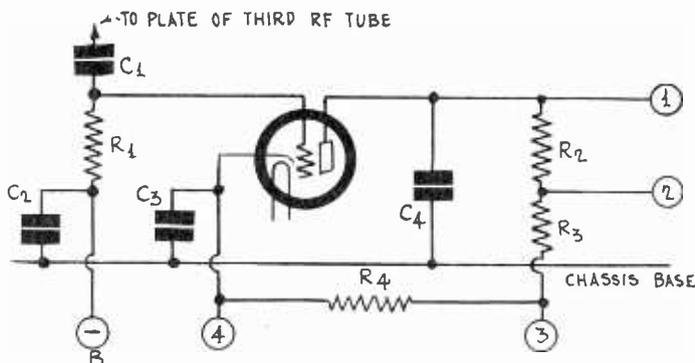

FIG. 2
In Fig. 2 is a different version of an automatic sensitivity control, and is a simplified diagram of that used in the new Stromberg-Carlson models 12 and 14. In this the control tube is a 227, the grid of which is connected through a 0.0001 mfd. condenser to the plate of the third radio frequency tube, which is a 224 screen grid tube. The grid return is connected to B minus, the most negative point in the circuit, and the cathode (4) is connected to a point on the voltage divider which is positive with respect to B minus but negative with respect to ground. The voltage between B minus and (4) in Fig. 2 is the steady bias on the control tube which makes it a grid bias, or plate bend detector.
### LIST OF PARTS FOR FIG. 2
### LIST OF CONNECTIONS FOR FIG. 2
- (1)—To the grid return of the first radio frequency amplifier tube.
- (2)—To the grid return of the second radio frequency amplifier tube.
- (3)—To a point on the voltage divider 3 volts negative with respect to the chassis and the ground. The resistance between (3) and ground is 100 ohms and is in the main voltage divider.
- (4)—To a point 1,210 ohms below (3) on the main voltage divider.
- (B—)—The negative side of the B supply circuit, which is separated from (4) by 260 ohms.
In order to show more clearly the connections of the sensitivity control tube to the voltage divider in Fig. 2, next week Fig. 4 will show the B supply used in the receiver, stripped of that part which is used exclusively to supply the field current for the dynamic speaker. The various taps on the voltage divider, (B—), (3) and (4) are marked to correspond in the two drawings.